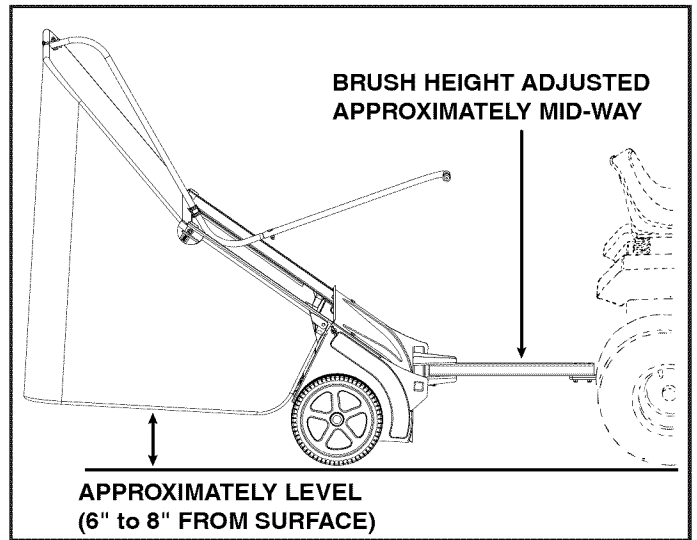

**FIGURE 18**
**STEP 18: (SEE FIGURE 18)**
**HINT:** Temporarily loosen the wing nuts (31) if necessary to fit the channels inside the bag.